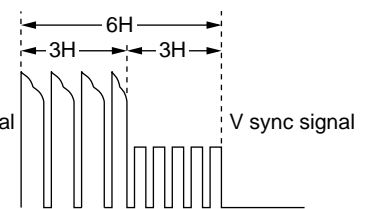

Figure 6.1.2
- 5) Then, set the sync slope to (+), and ascertain that the interval between the trigger point and the V sync signal has been set to 6H. (See Figure 6.1.2.)